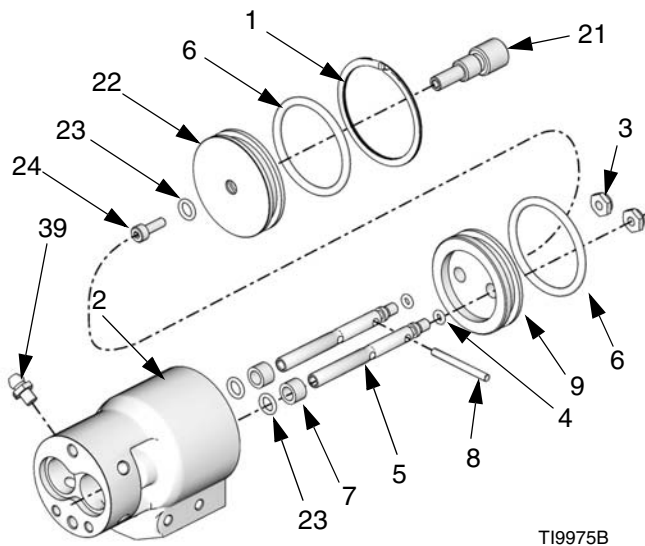

FIG. 6
7. Remove the retaining ring (1) from the back of the air cylinder (2). Push the two shafts (5) into the air cylinder (2) to dislodge the air cylinder cap (22). See FIG. 6.
8. Push the two shafts (5) to dislodge the piston (9) assembly from the air cylinder (2).
9. Use an o-ring pick to remove the o-rings (23) and use a screwdriver to remove the sleeve bearings (7) from the air cylinder (2).
10. Remove the o-rings (6) from the piston (9) and air cylinder cap (22).
11. Remove the screw (24) and snuff-back adjustment knob (21) from the cap (22). Use an o-ring pick to remove the o-ring (23).
12. Remove the lock nuts (3), the pin (8), o-rings (4), and piston o-ring (6) from the shaft (5).
1. Lubricate the shaft o-rings (23) and the bearings (7). Insert o-rings into the air cylinder (2) and air cap (22) cavities. See FIG. 6.
**NOTE: The snuff-back adjustment knob (21), shaft o-rings (23), and screw (24) are not present in models 255180, 255182, and 255183.**
2. **255179 and 255182 only:** Insert the snuff-back adjustment knob (21) in the cap (22). Tighten the screw (24) on the end of the snuff-back adjustment knob (21). Torque to 25-30 in.-lb (2.8-3.4 N•m).
3. Press the bearings (7) flush into the air cylinder housing (2) and air cap (22), trapping the o-rings (23).
4. Lubricate and reassemble the piston assembly: piston (9), o-ring (6), dowel pin (8), nuts (3), o-ring (4), and air cylinder shafts (5). Tighten nuts (3) to 25-30 in.-lb (2.8-3.4 N•m). The shafts (5) should hang with some play to be self-aligning in the bearing.
5. Lubricate the air cylinder (2) ID. Push the piston (9) assembly into the air cylinder.
6. Lubricate and assemble the o-ring (6) onto cap (22). Push cap (22) into cylinder (2).
7. Install the outside retaining ring (1).
6. **255179 and 255181**, Insert the seals (26) with the springs facing into the fluid housing (14).
7. With the “X” on the nosepiece on the same side as the “MD2” on the air cylinder, install the nosepiece (31) with the o-rings (20), seats (27), and nosepiece screws (19). Tighten the nosepiece screws to 115-120 in.-lb (14-15 N•m).
8. **255181 and 255182**, Install injector tube (30) with assembly tool (48). Torque to 168-192 in.-lb (19.0-21.7 N•m).
9. **255181 and 255182**, Install injector tip (47) and torque to 60-72 in.-lb (6.8-8.1 N•m).
10. Remove zerk grease fitting (39). Fill grease in the grease port below until grease begins to exit where the zerk grease fitting (39) was located. Repeat for the other zerk grease fitting (39). See FIG. 6.